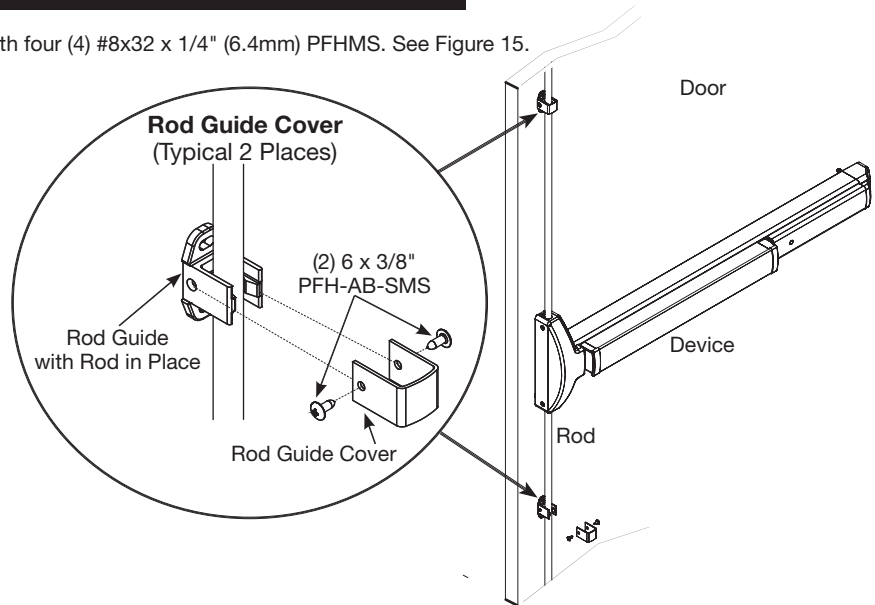

Figure 14: Install Top & Bottom Rod Guide Covers
1. Install top and bottom rod guide covers with two (2) 6 x 3/8" (9.5mm) PFH-AB-SMS. Gently tighten screws. See Figure 14.